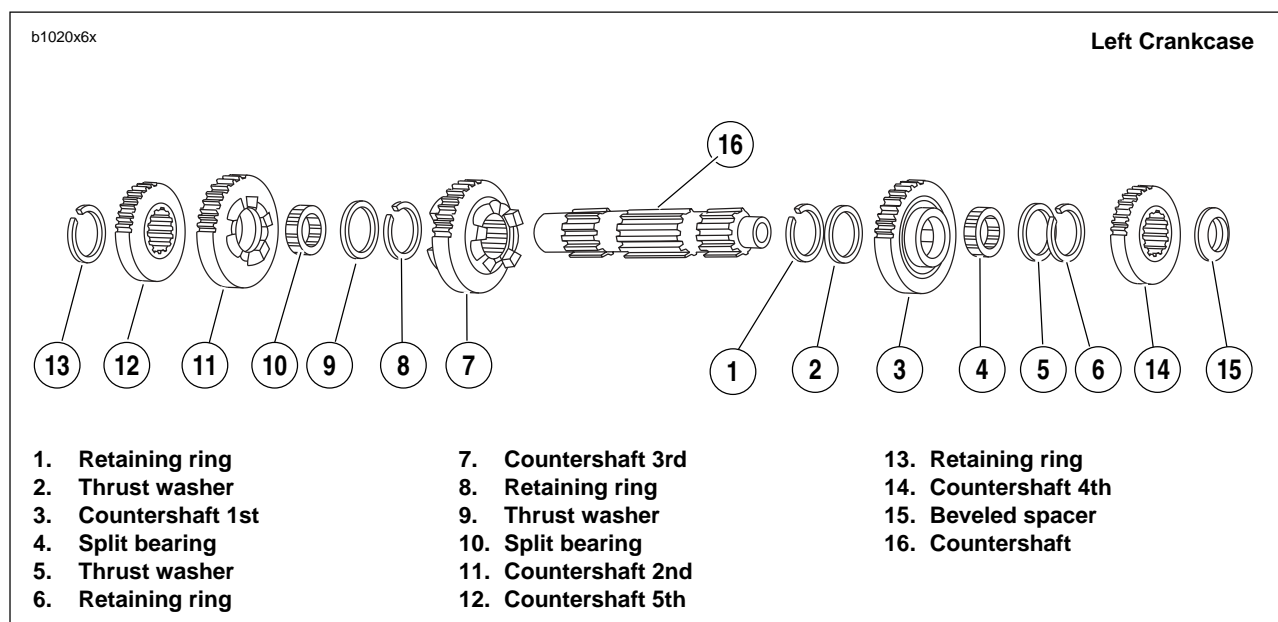

Figure 6-62. Transmission Countershaft Assembly/Reassembly
1. See Figure 6-62. Install **new** retaining ring (1) and thrust washer (2) onto countershaft in the second ring groove from the end with internal threads.
2. Install split bearing (4) onto countershaft.
3. Locate countershaft 1st gear (3), identified by one radial groove at one side, and slide gear onto shaft. Position gear over bearing (4).
4. Install thrust washer (5) and **new** retaining ring (6) next to countershaft 1st gear (3).
5. Install countershaft 3rd gear (7) on countershaft with fork groove facing away from countershaft 1st gear (3).
6. Install **new** retaining ring (8) on countershaft. Position **new** retaining ring in the second ring groove from the end. Install thrust washer (9) next to retaining ring (8). Install split bearing (10) in seat next to washer (9).